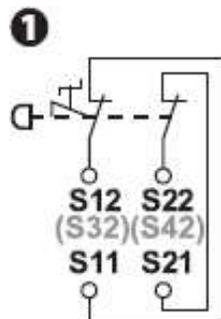

FIGURE 4-26. SAFETY RELAY SINGLE INPUT
3. Remove Safety Relay (Figure 4-26) from DIN rail: Use a screwdriver to gently release the black plastic clip at the bottom of the relay; insert screwdriver into clip and press down with no more than a 15-degree angle.